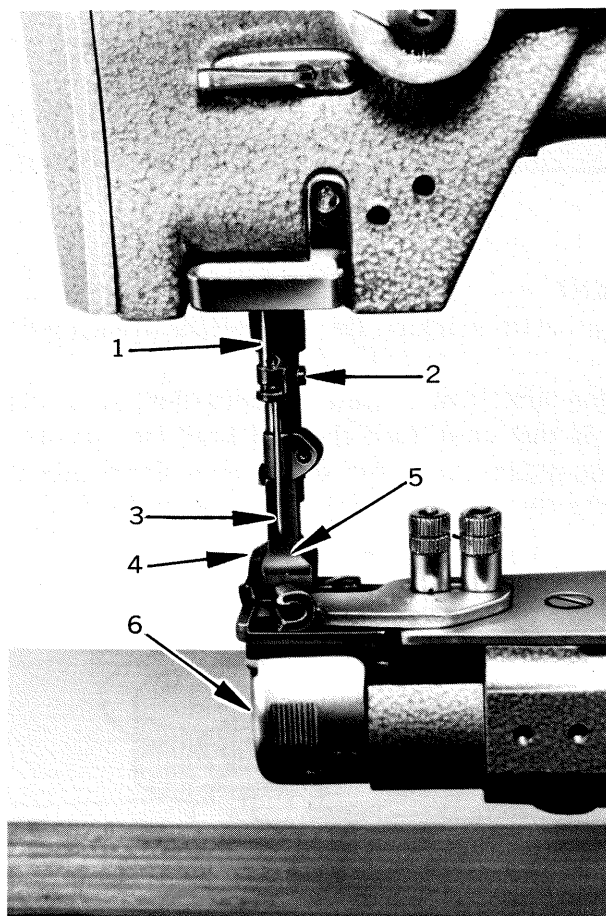

Fig. 3
NEEDLE (Fig.3)
1. Raise the needle bar to its highest point. Draw out the end cover (6, Fig. 3)
* To adjust the lift, loosen the wing nut (1), move up the nut to raise the lift, and push down this nut to lower the lift.
* When altering the lift of the lifting presser foot (4, Fig. 3) unequally against that of the vibrating presser foot (5, Fig. 3) or vice versa, see the instructions "ADJUSTING THE HEIGHT OF THE PRESSER FEET".